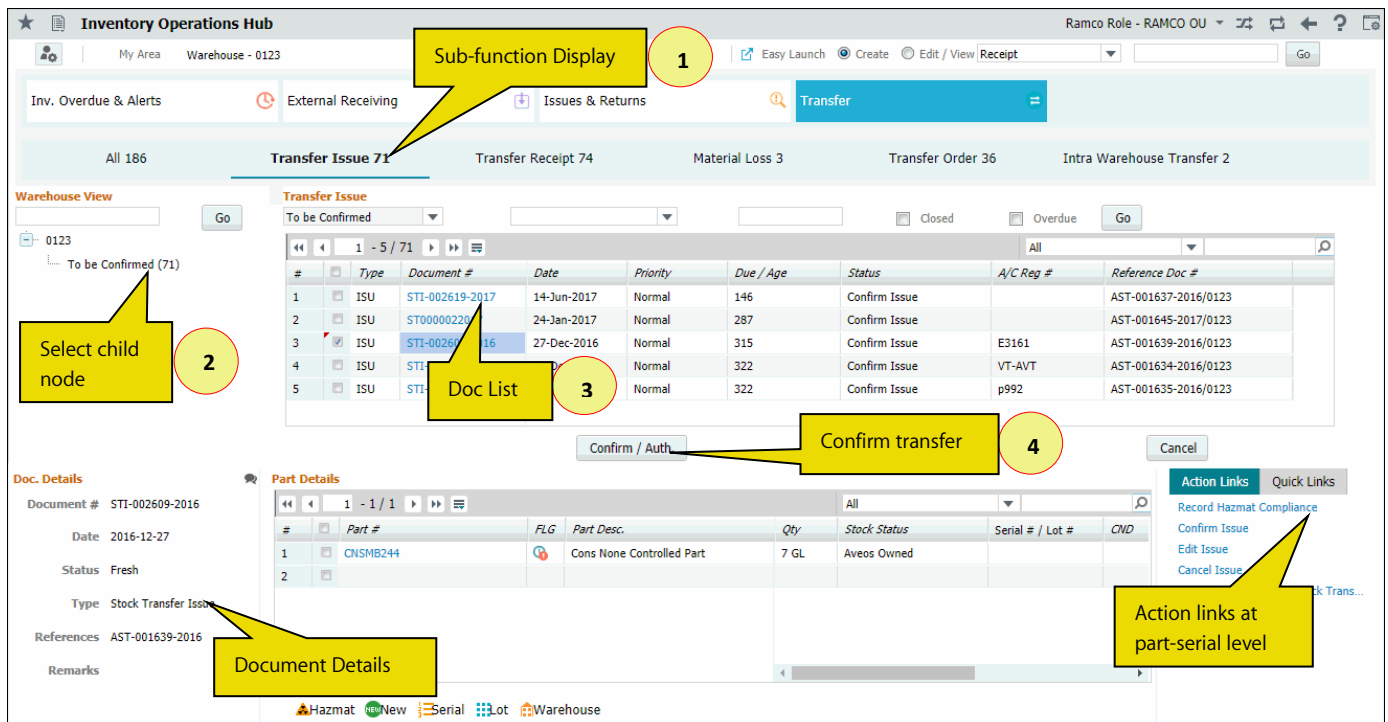

Figure 2.11 Issuing transferred parts
1. Select the 'Transfer Issue' sub-function. See Figure 2.11.